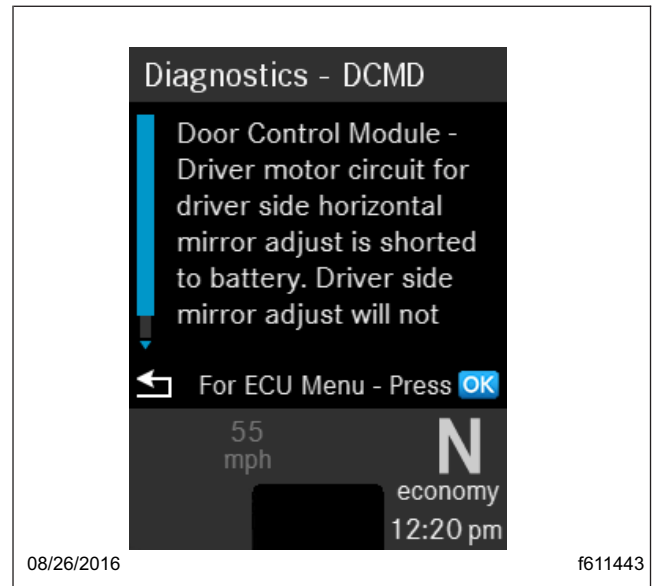

Fig. 8.4, Additional Information for the Fault
4. Press OK again to access additional information. See Fig. 8.4.